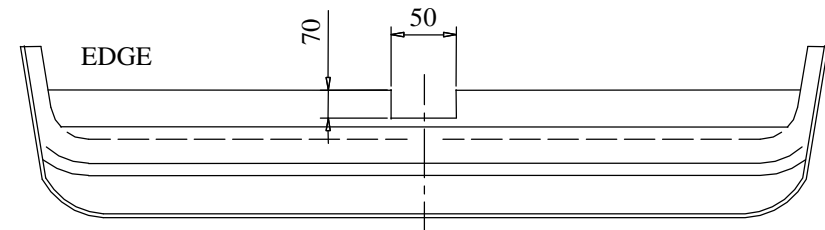

Fig. 2
3. Position the main bar of the towbar (pos. 1) to chassis members and fix it through the original holes using bolts M10x1,25x35mm (pos. 8).
4. Through the hole (pos. A) and original towing eye fix using bolt M12x140mm (pos. 6) together with washers (pos. 5) and distance sleeve $\varnothing 25 \times \varnothing 13$ mm, L=73mm (pos. 4).
5. Cut the bumper according to the fig.2, then reassemble it.